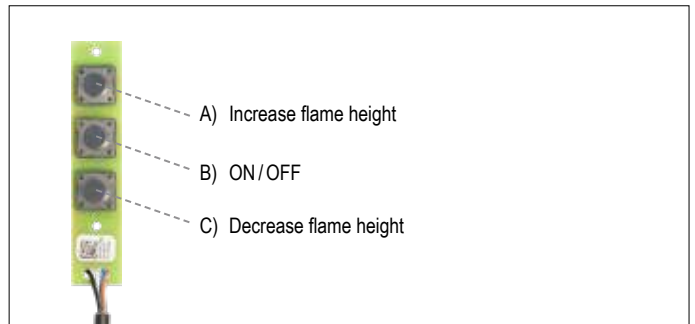

Figure 20: Switch Panel
- Press "B" button (see figure 20, page 11) until two short beeps (CE version) or continuous beeping (CSA version) confirm the start sequence has begun; release button.